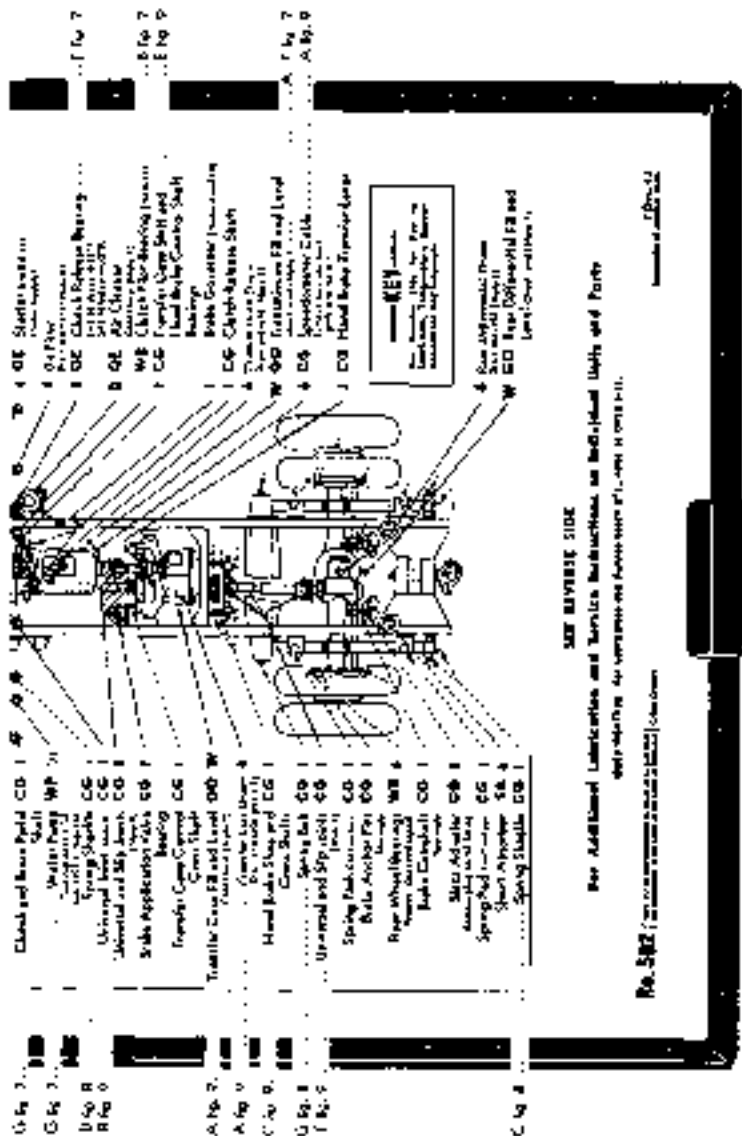
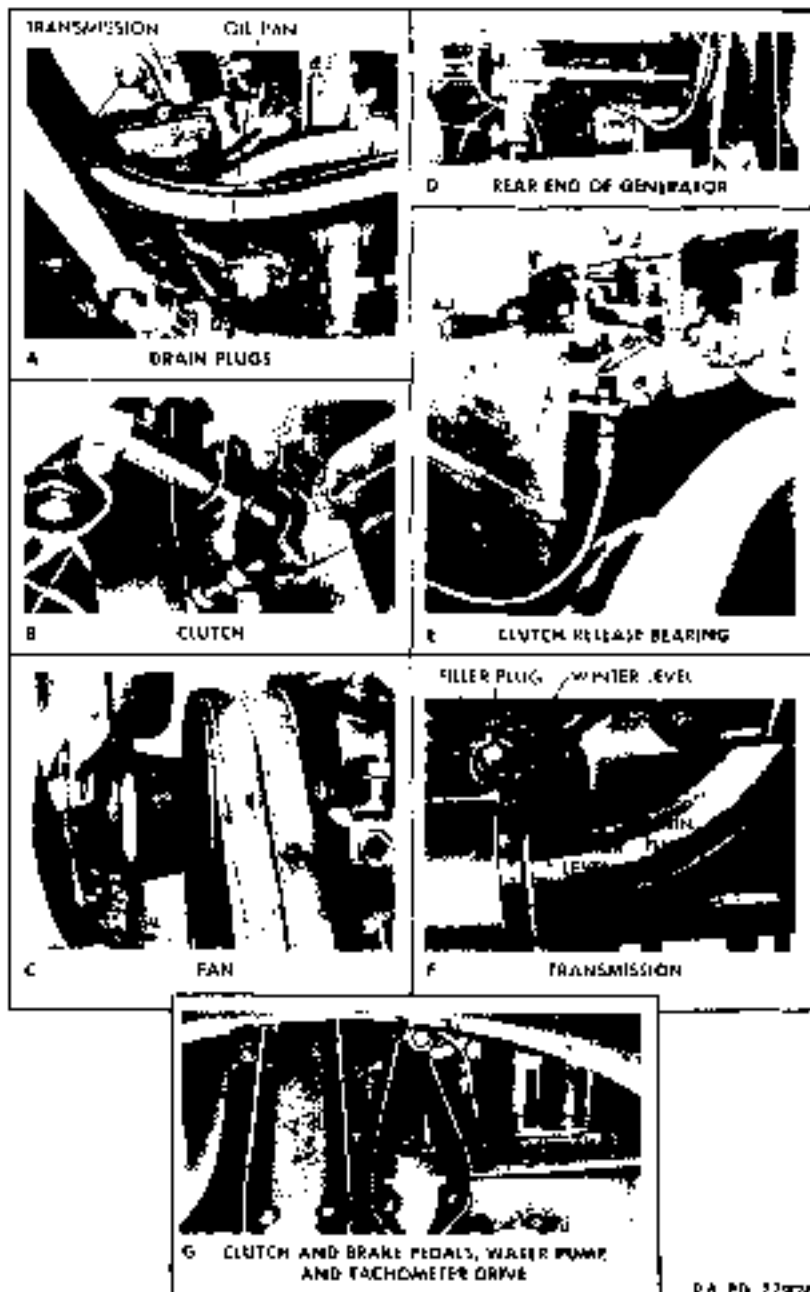
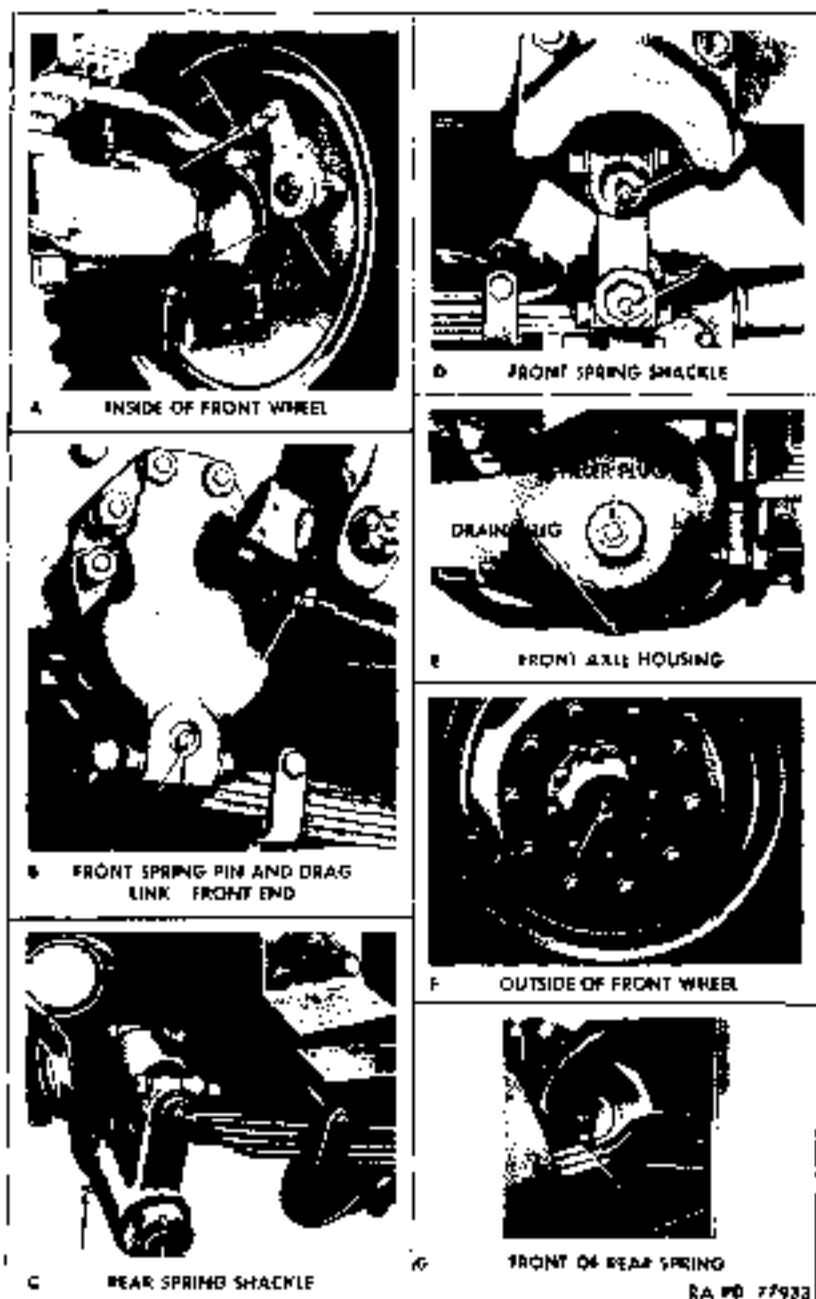
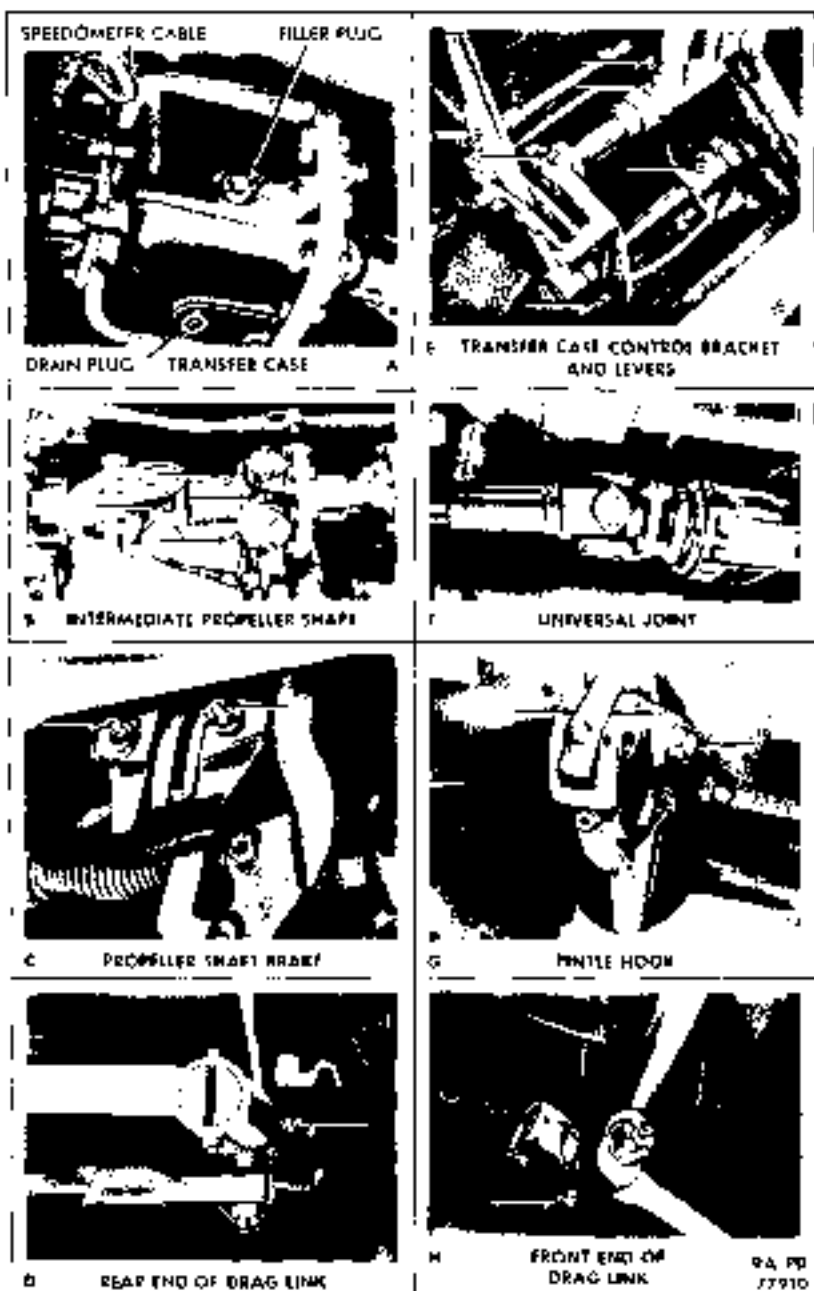

Figure 5 - Lubrication Guide - Tractor
Figure 7 - Engine, Clutch, and Transmission -- Lubrication Points
Figure 8 — Wheels, Axles, and Springs — Lubrication Points
Figure 9 - Miscellaneous Lubrication Points
a. War Department Lubrication Guide No. 502 (figs 5 and 6) prescribes lubrication maintenance for 4- to 5-ton 4 x 4 Tractor Truck (Autocar Model U-7144 T). The Guide is supplemented in this manual with localized views of important lubrication points (figs 7, 8, and 9).
(7) **GEAR CASES (A and F, fig. 7, E, fig. 8; A, fig. 9).** Weekly, check level with truck on level ground and, if necessary, add lubricant to within 1/2 inch of plug level when cold, or to plug level when hot. Drain and refill at intervals indicated on guide. Drain only after operation. Keep housing vents clean. Transmission has "SUMMER" and "WINTER" level markings at filler plug.
(8) **UNIVERSAL JOINTS (FRONT WHEELS) (A, fig. 8).** With truck on level ground, remove plug on under side of joint; also remove plug in wheel hub and install fitting. Fill through fitting to level of plug hole. Remove fitting and reinstall plug.
(9) **UNIVERSAL AND SLIP JOINTS (B and F, fig. 9).** Apply GREASE, general purpose, No. 1 above +32°F. and No. 0 below +32°F. to universal joint until it overflows at relief valve, and to slip joint until lubricant is forced from vent at universal joint end of spline.
(14) **OILCAN POINTS (4, fig. 9).** Every 1,000 miles, lubricate throttle and spark control rod ends, clevises, hinges, latches, air compressor rocker arm shaft, pintle hook, and hand brake linkage with **OIL**, engine, SAE 30 above  $-32^{\circ}\text{F}$ . or SAE 10  $+32^{\circ}\text{F}$ . to  $0^{\circ}\text{F}$ .. Below  $0^{\circ}\text{F}$ ., use **OIL**, lubricating, preservative, special.
e. **Localized Views.** The localized views of lubrication points (figs. 7, 8, and 9) supplement the instructions on the Guide and in the notes.